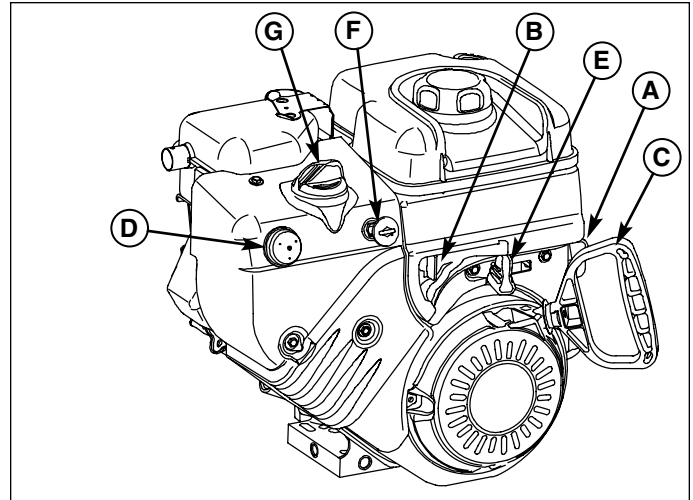

Figure 1. Engine Controls
See Figure 1 for the following instructions.
2. Insert the engine key (F, Figure 1) into the engine key slot and push fully in to the RUN position.
3. Move the throttle lever (E) fully up to the FAST position.